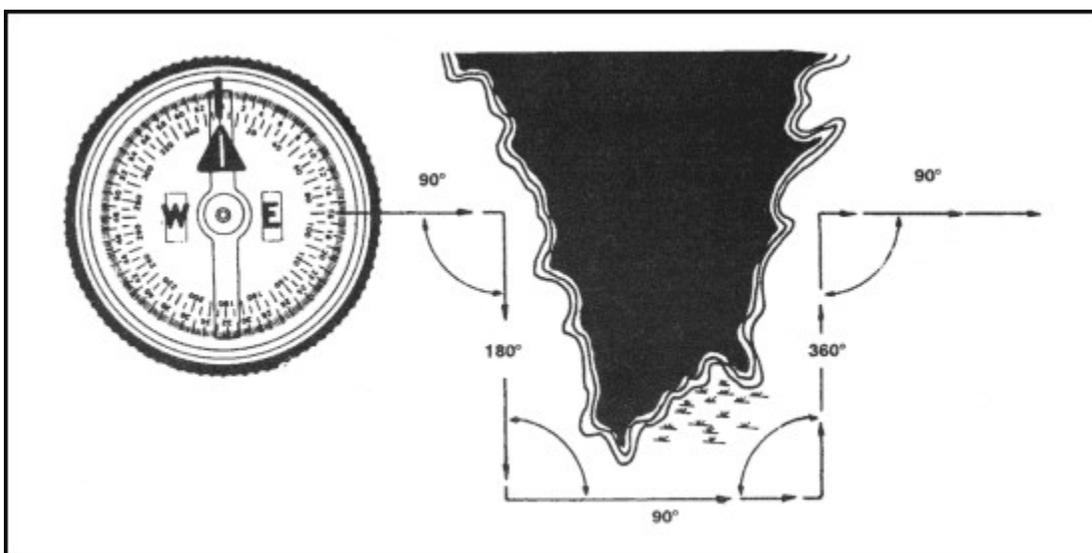

Figure 9-5. Bypassing an obstacle.
(1) For example, while moving on an azimuth of 90° change your azimuth to 180° and travel for 100 meters. Change your azimuth to 90° and travel for 150 meters. Change your azimuth to 360° and travel for 100 meters. Then, change your azimuth to 90° and you are back on your original azimuth line (Figure 9-5).